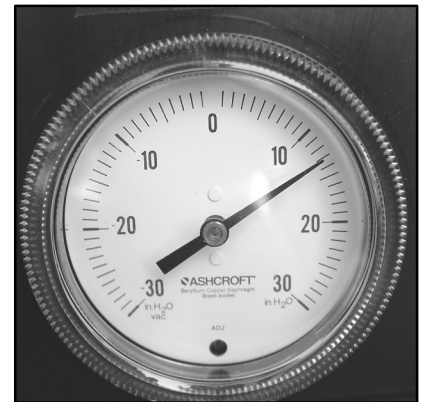

Figure 8
1. Be sure the Tester has completed the Phase-one flow test by referring back to the Phase-one instructions in this manual. Remember that the Phase-one test is completed when the flow meter's ball stops descending. At that time the pressure gauge will indicate full system pressure. (Figure 8)